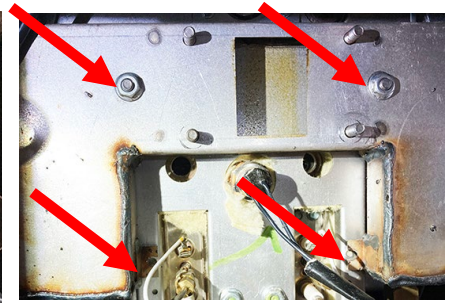

Figure 73
- 73. Reattach the plenum with the two outer nuts and lower tab screws (see Figure 73).